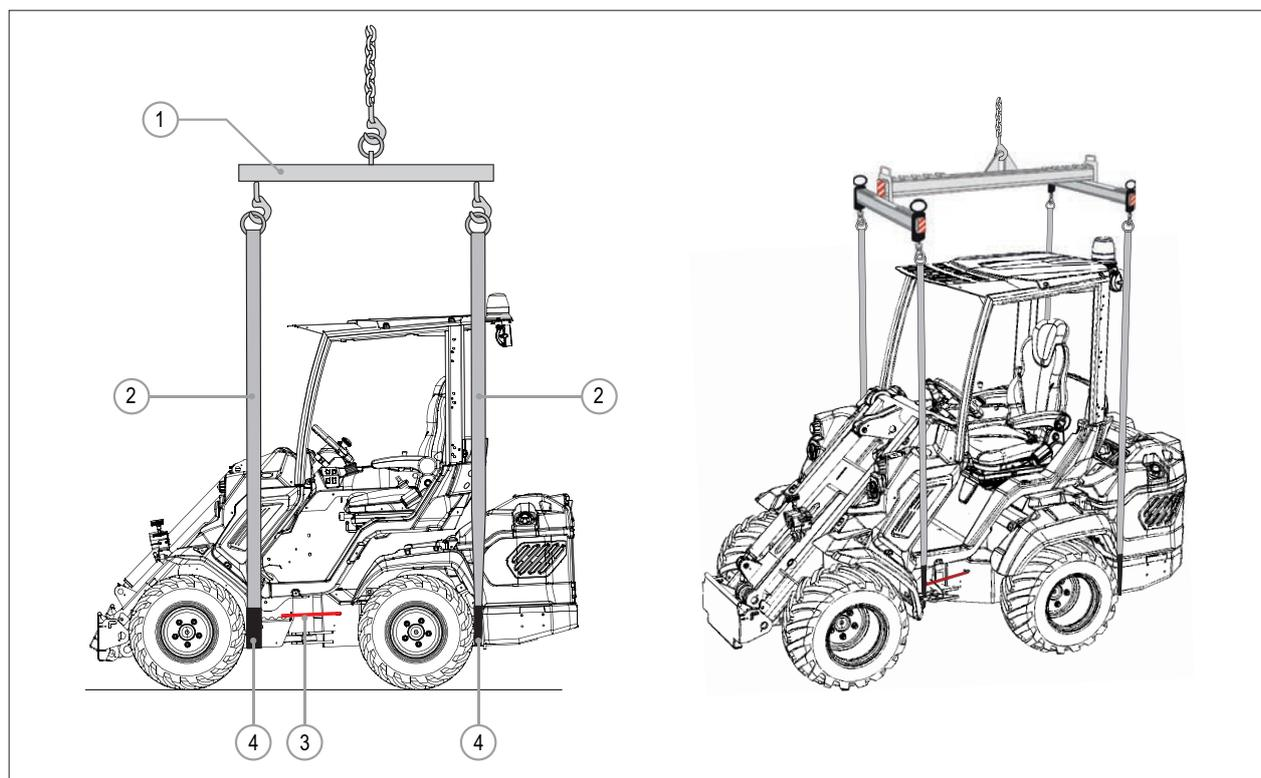

FIG. 23
- 2) Insert the steering lock bracket (FIG. 23 - Rif. 3) (see par. 5.2.1).
- 3) Use a lifting beam (FIG. 23 - Rif. 1) of adequate capacity and in accordance with the use.
- 4) Pass the lifting straps (FIG. 23 - Rif. 2) under the machine as shown in figure. Use sling antislip protector sleeves (FIG. 23 - Rif. 4) to avoid damages to the straps. Don't use the tie-down points of the machine to fix the straps. To prevent machine damage when lifting, make sure that the lifting straps don't touch the machine sides in any point.